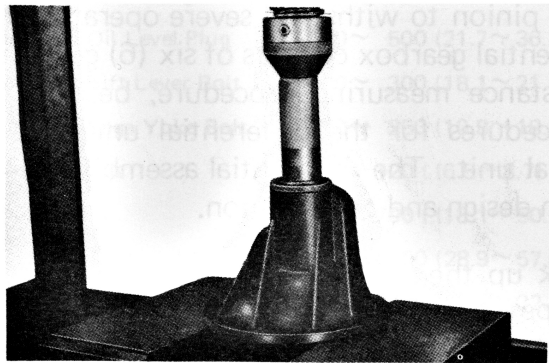

Fig. 4-5.
- 2) Reassembly of the front and rear bearing outer races into the differential carrier necessitates the use of the special tools respectively as shown in the Fig. 4-5. (For front bearing-09913-76010, for rear bearing-09913-85210). When re-assembling the outer race into the differential carrier, exercise care to avoid inclination of the outer race in position, or bearing seizure, abnormal noise and abnormal wear will result.